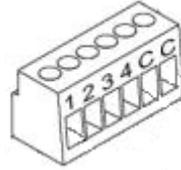

Figure 2. Input / output terminal block
- **Prog./Test Button (2)**: a short press on this button sets the device into the programming mode, making the associated LED (3) light in red. If this button is held at the same time of applying bus power to the device, BIN will enter the Safe Mode. In such case, the LED will intermit in red.
- **Slots for the input / output lines:** slot for the insertion of the terminal block with cables (Figure 2) that permits BIN interfacing with the different input and output elements.